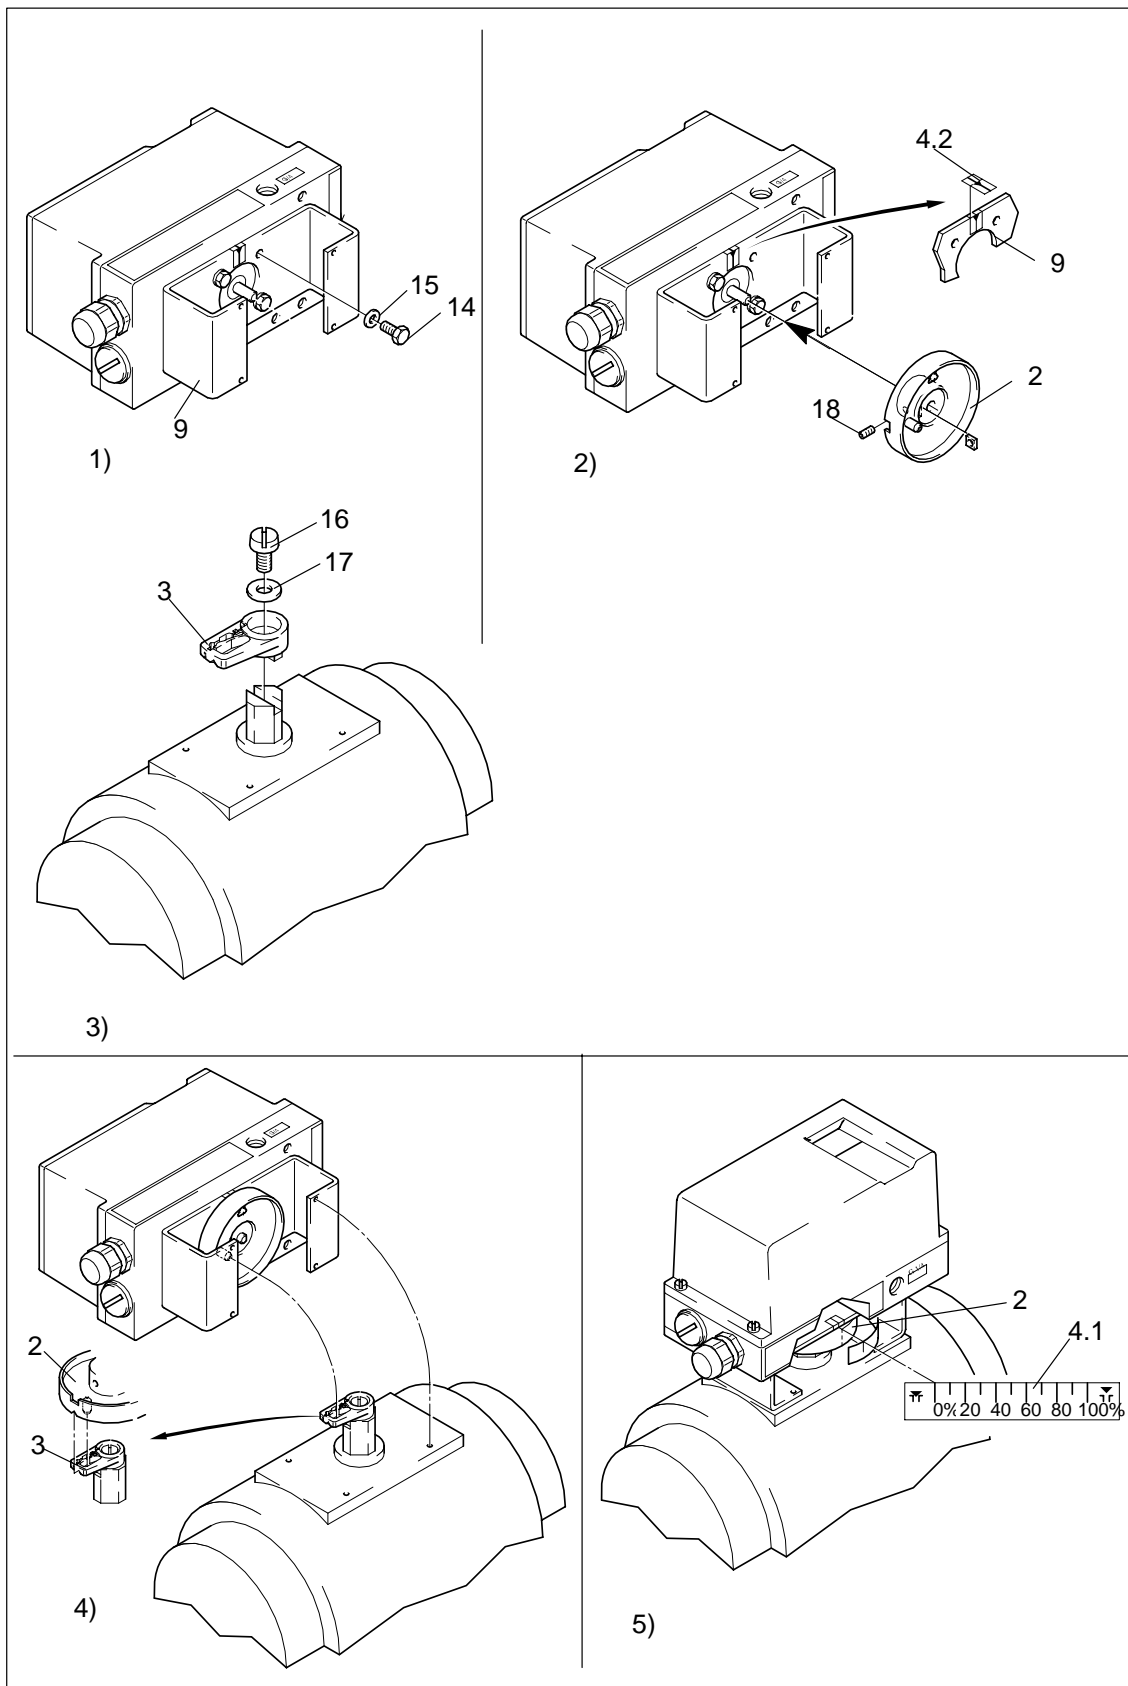

Fig. 3-6 Assembly sequence (rotary actuator)
The following are included in the *supply of the mounting kit “Rotary actuator”* (see Fig. 3-6 for item Nos.):
3.3.4 Assembly Sequence (see Fig. 3-6)